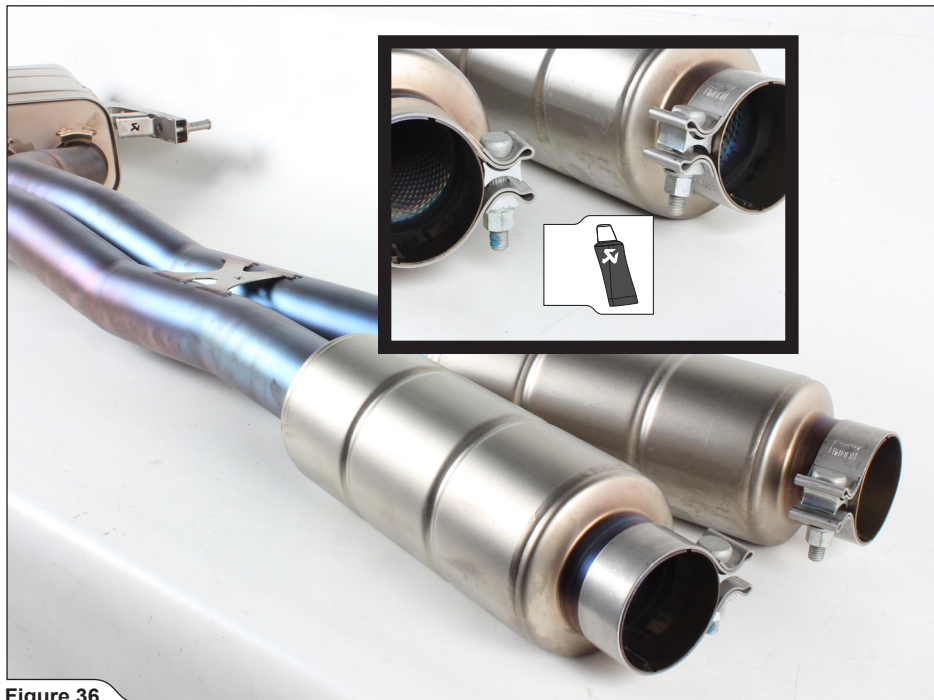

Figure 36
6. Correctly orient and attach the clamps (from Akrapovič installation kit) onto the collector's inlets, as shown (Figure 36).